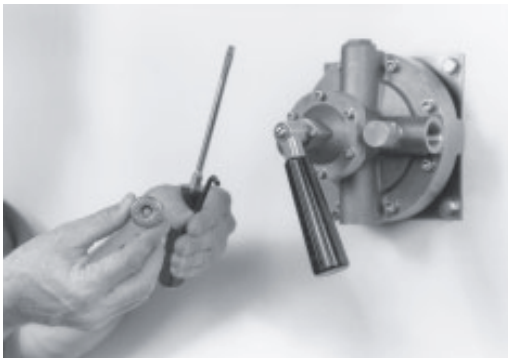

Figure 1.
- Fig. 1. Tools required: Flat blade screwdriver, Part #042 Locking Device (includes required 3/16" hex key), 3/32" Hex key (supplied with Steamix Valve/Hose Station).